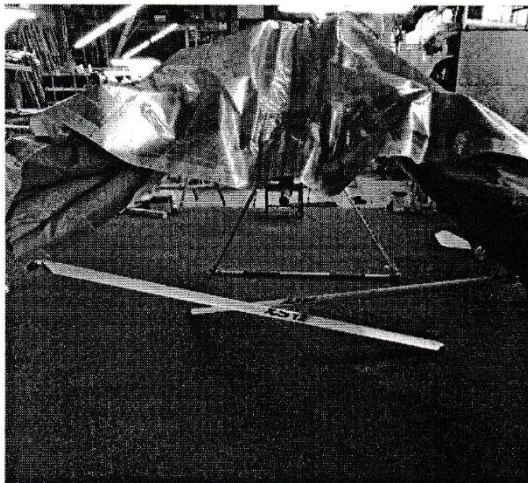

Figure 8
6. Spread the wings approximately 50% from fully open. Attach the struts according to the markings. L-left, R-right marks must be on the control frame side of the struts, on top. Attach the upper part of the strut first, together with the strut safety wire (fig. 8).